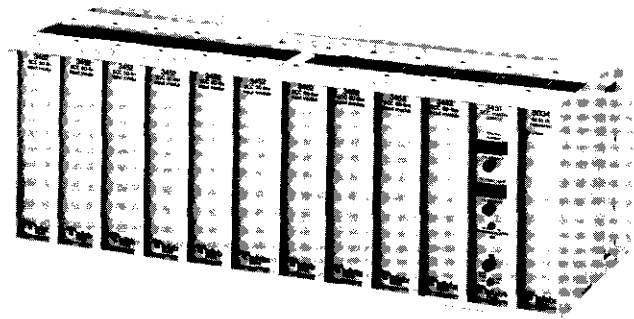

figure 1. 345 Status/Control Concentrator (SCC) System
1.01 The Tellabs 345 Status/Control Concentrator (SCC) System (figure 1) is a microprocessor-based telemetry, emergency monitoring, and control system designed to provide local or remote status-reporting and output-control functions via a standard RS-232-C ASCII serial communication port. The 345 SCC can be used in conjunction with other Tellabs modules and systems to augment their features and functions, as described later in this practice.